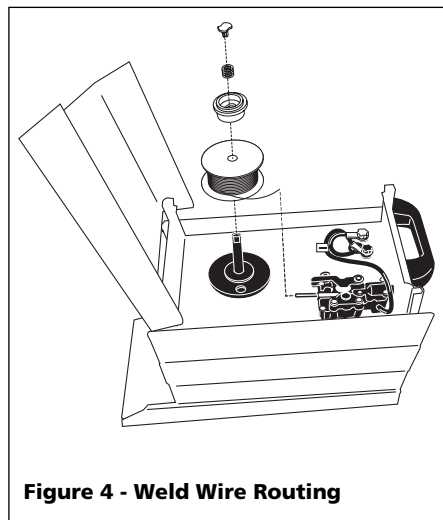

Figure 4 - Weld Wire Routing
2. Remove spool lock by pushing in and rotating it a 1/4 turn counterclockwise. The knob, spring, and spool spacer can now be removed. (See Figure 4).